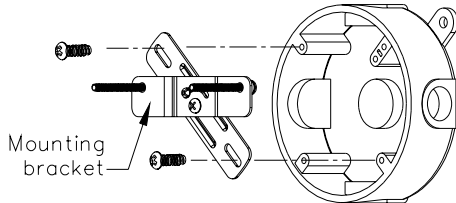

FIGURE 14
- (1) Switch off the power source or wall switch.
- (2) Line up the holes on the mounting bracket with the holes on your junction box. Using fitting screws (depending on size of the holes in your junction box), attach the mounting bracket to your junction box. (FIGURE 14).